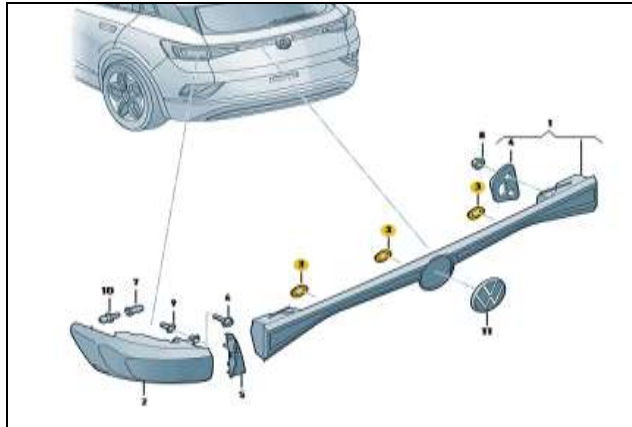

Figure 5
- Replace the 3 tail light mountings in the rear lid (see Figure 5, number 3 (in yellow) with part number 11A 945 179 A or later suffix.